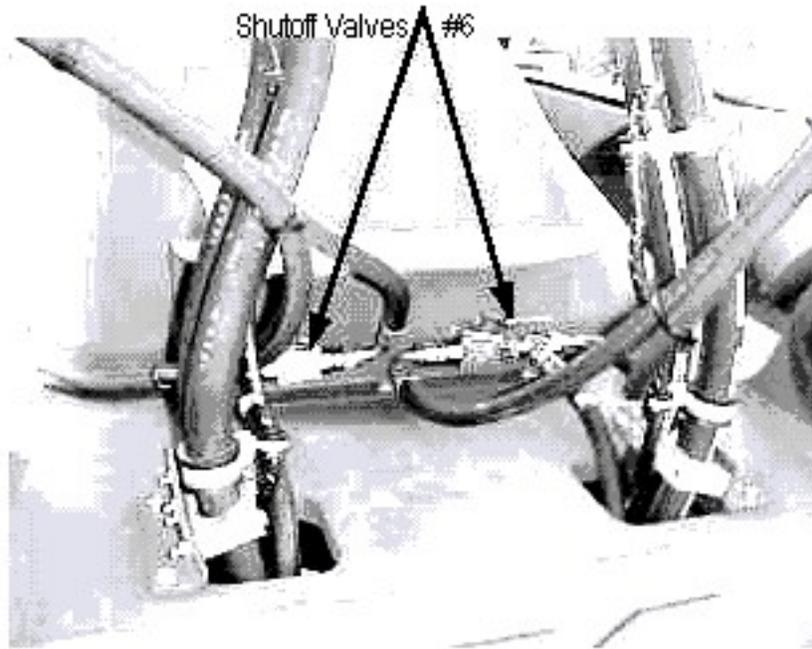

Figure 3-168
p. At front of vehicle, open both shutoff valves #6 slowly and at the same time the tophandler should now be resting on dolly wheels in floating position (see Figure 3-168).